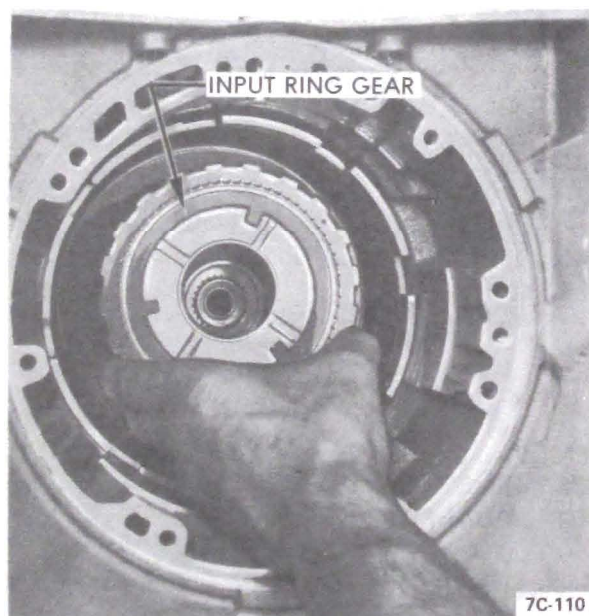

Figure 7C-57
b. Using Tool J-23062-5, press in new bushing .050" to .060" from inner surface of hub. See Figure 7C-58.